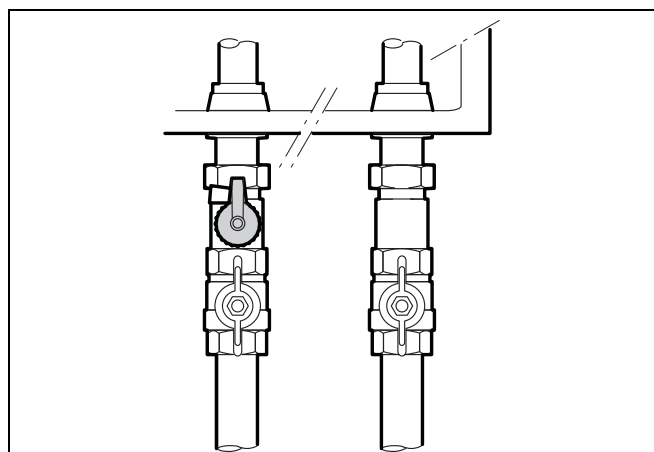

fig. 69 Draining the Logamax plus GB142
- Close the maintenance shut-off valves and drain the Logamax plus GB142. (see fig. 69).